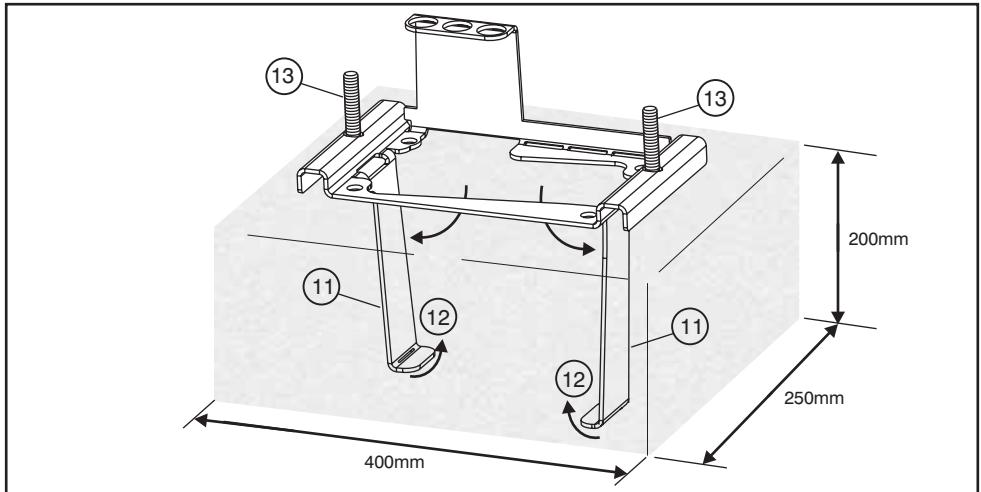
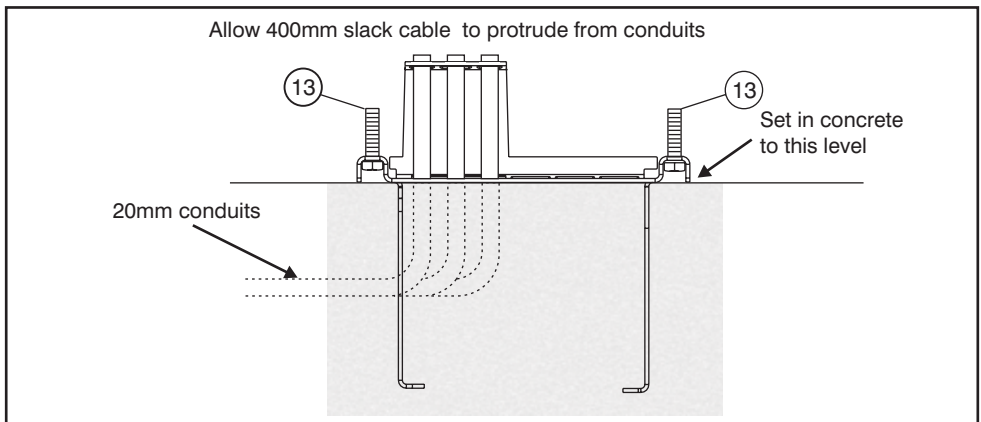

Figure 13 Foundation Plate Anchors
Figure 14 Set Foundation Plate in Concrete
- The anchors (11) must first be bent down as shown in Figure 13.
- Use self locking or crimping pliers to bend the anchor tips (12) to the horizontal plane.
- **Make sure the M10 bolts (13) which secure the gearbox are in place.**
- Refer to Figure 14 to ensure correct positioning and set the foundation plate in concrete to the level indicated